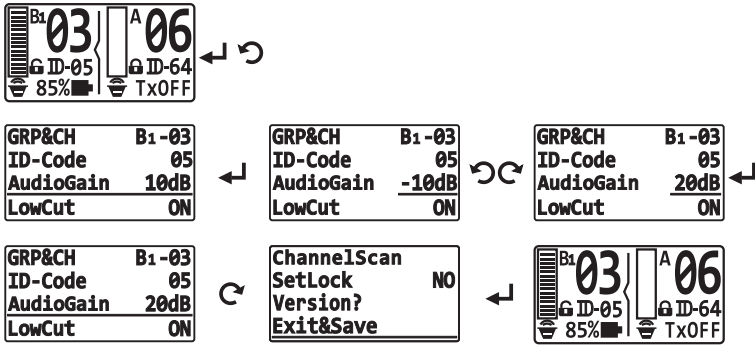

Fig. 21
5. Setting Audio Gain, see Fig. 21: